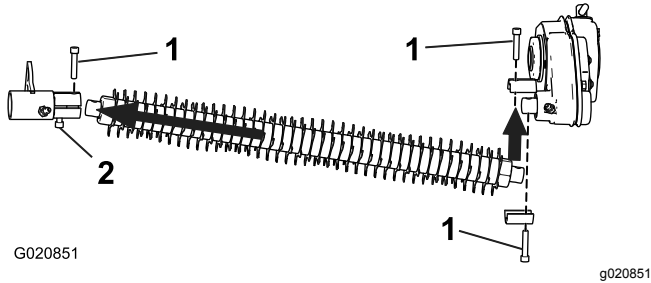
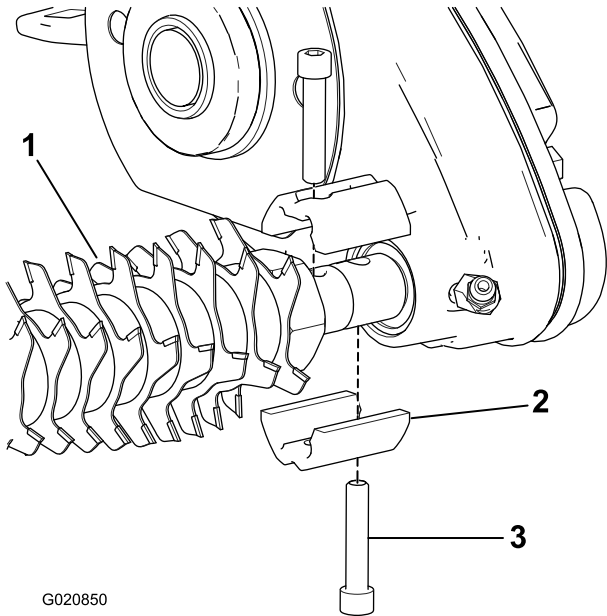

Figure 22
Figure 23
- Loosely install the 2 halves of a groomer-shaft clamp to the driven shaft on the right side of the machine (Figure 22 and Figure 23).
- Slide the groomer-reel shaft into the clamp on the right side and swing it up to the drive shaft on the left (Figure 22).
- Secure the groomer reel with the clamps as shown in Figure 22 and Figure 23, torquing the socket head screws to 9.6 to 10.5 N·m (85 to 95 in-lb).
1. Remove both socket-head screws and shaft clamps from one side of the groomer reel (Figure 23).